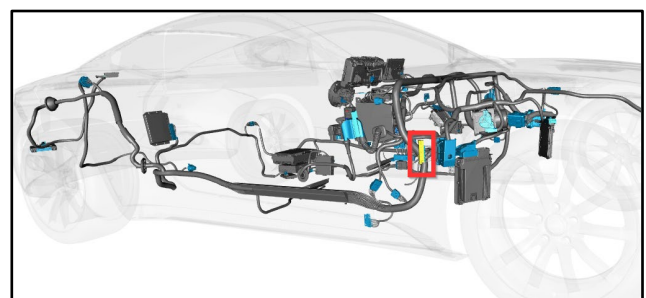

Figure 16
6. **Body CAN** – This header is in the driver's footwell (refer to Figure 16).